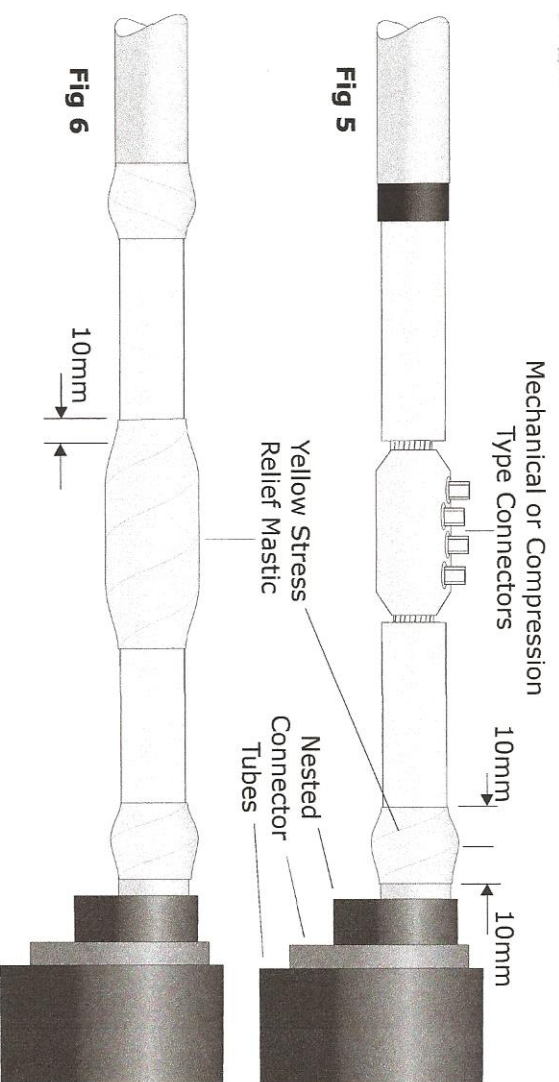

Fig 5
6. Park the stress control tubes, red insulation tubes and red/black dual wall tubes over each core as shown in Fig 5.
7. Stretch the yellow stress relief tape and apply over the screen cut area, extending onto the primary insulation by 10mm and onto the lead sheath on each core also by 10mm as in Fig 5.